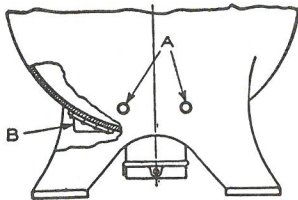

Fig. 3
9. Practically all wash wheels have thermometer connections at points A or B as shown in Fig. 3. Most of the current models have the connection at B while the older models are at A. The bulb of the Ashcroft Laundry Wash Wheel Dial Thermometer is short enough to fit either connection and clear the rotating cylinder.